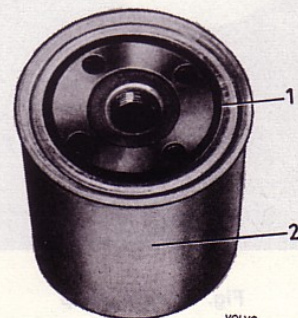

Fig. 56. Oil filter ready for fitting
2. Coat the rubber gasket (1, Fig. 56) of the new filter with oil and make sure that the contact surface for the oil filter is free from dirt. By coating it with oil, the gasket slides into better contact with the sealing surfaces. Screw on the filter by hand until it just touches the cylinder block.